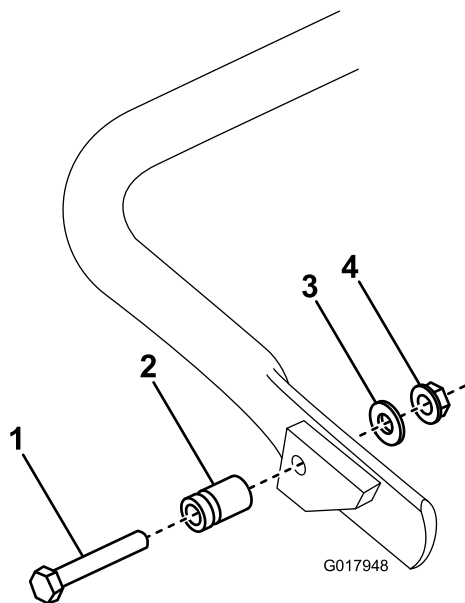

Figure 5
1. **On Model 04056 only**, connect the spring stud to the right-hand side of the kickstand (Figure 5) using the bolt, washer, and flange nut provided.